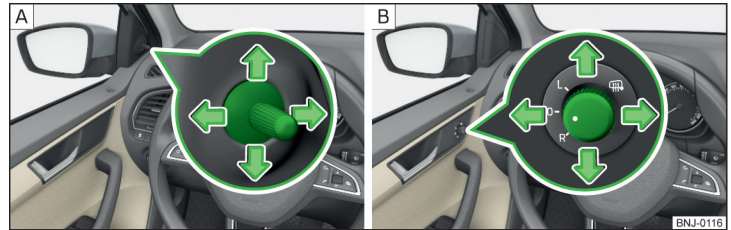

Fig. 67 Exterior mirror operation: mechanical / electrical
- » To **adjust** the mirror surface, move the knob in the direction of arrows » Fig. 67.
The knob for the electrically adjustable mirrors can be moved to the following positions » Fig. 67 - B.